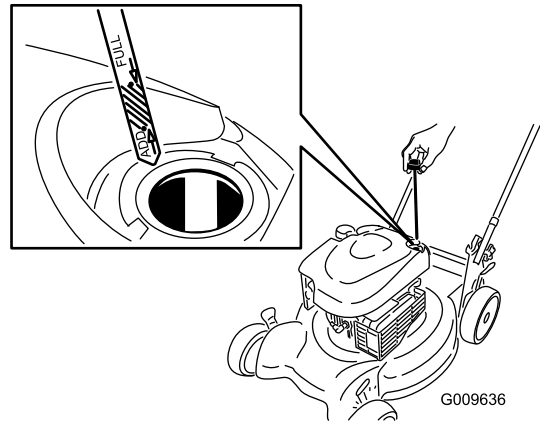

Figure 8
1. Remove the dipstick, wipe it clean, and fully install the dipstick (Figure 8).
2. Remove the dipstick and check the oil level (Figure 8). If the oil level is below the **Add** mark on the dipstick, slowly pour oil into the oil fill tube to raise the oil level to the **Full** mark on the dipstick. **Do not overfill.** (Max. fill: 20 oz. (0.59 l), type: SAE 30 detergent oil with an API service classification of SF, SG, SH, SJ, SL, or higher.)